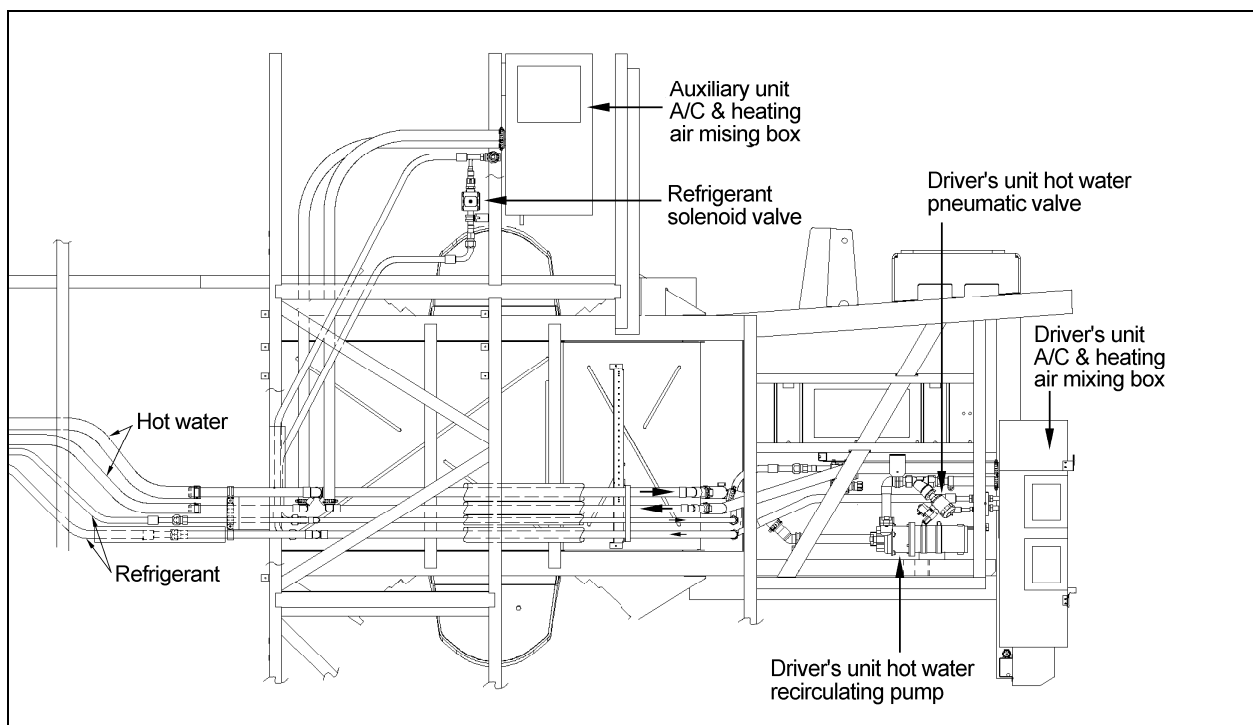

FIGURE 39: SMALL HVAC SYSTEM - DRIVER'S AND AUXILIARY UNIT
The schematics of figure 39 & 40 show respectively, the small HVAC system heating and air conditioning arrangement and the central HVAC system heating arrangement.
The small HVAC system driver's unit is similar to the driver's unit of the central HVAC system, except that the recirculating pump is located on the ceiling of the spare wheel compartment (figure 39).
2. Locate the normally open hot water pneumatic valve on the ceiling of the spare wheel compartment (figure 39), disconnect its wiring connector, and then connect a 24-volt external power source, using jumper cables, to close valve.